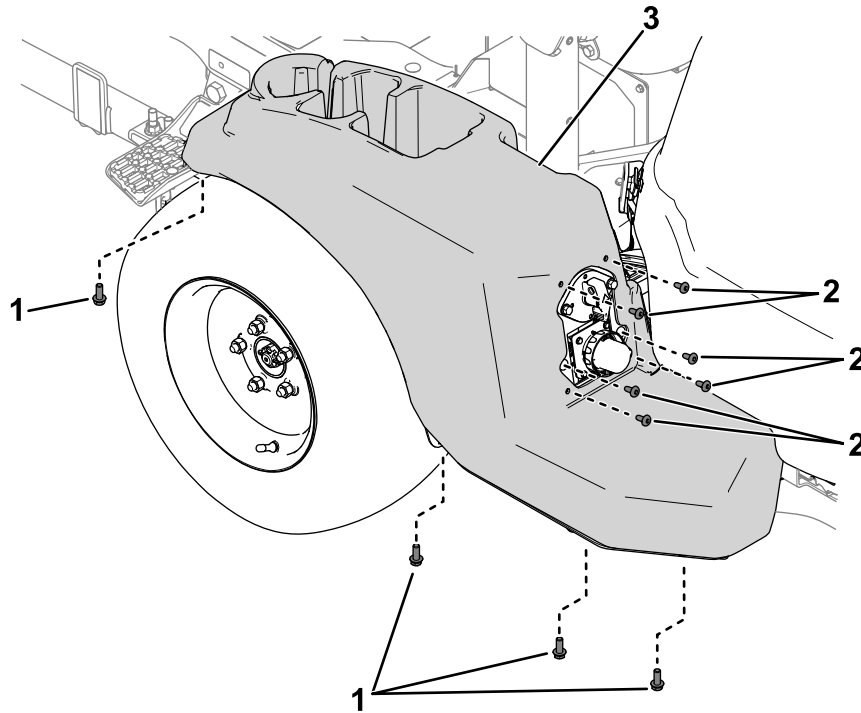
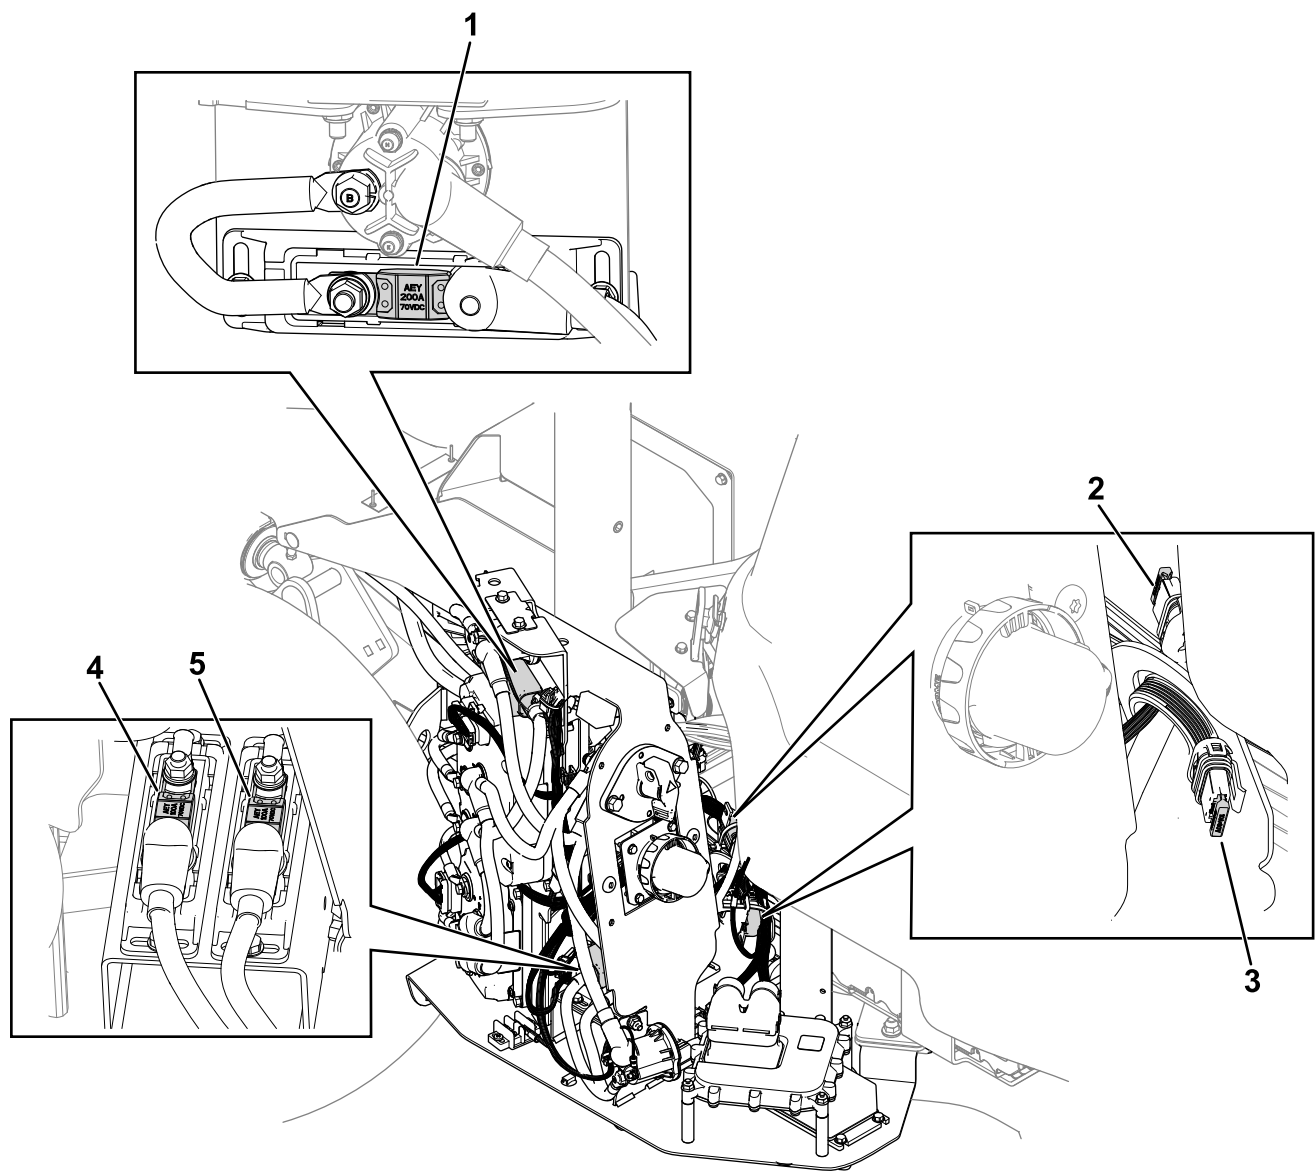

Figure 49
Figure 50
- Remove the cover on the left side of the machine (Figure 49) to locate several fuses (Figure 50).